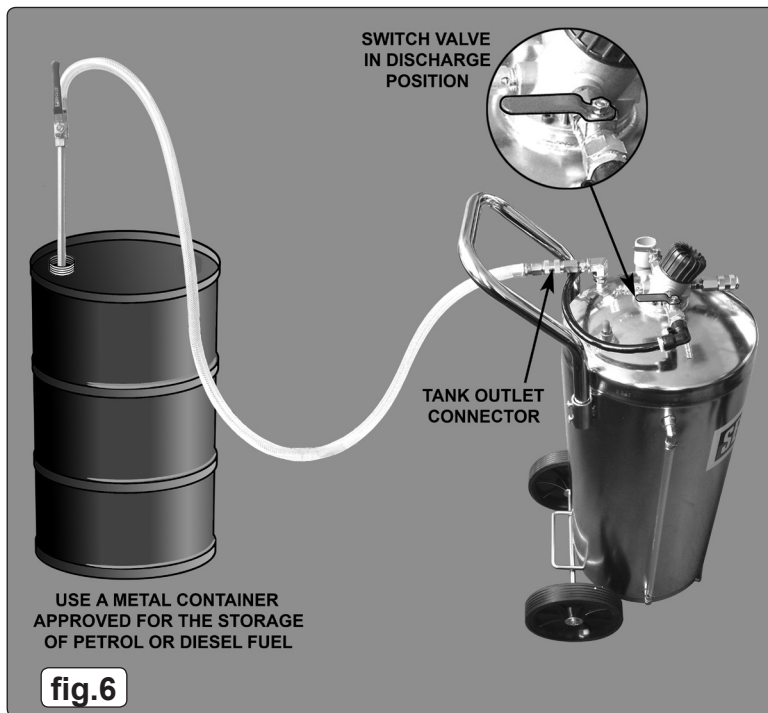

fig.6
IMPORTANT. Before starting the draining process turn the selector valve (fig.6) to the discharge position to allow the drainer tank to become pressurised.
- 4.13.1. Ensure that the female connector on the other end of the main hose is connected to the male outlet connector as shown in fig.6 and fig.3-1.